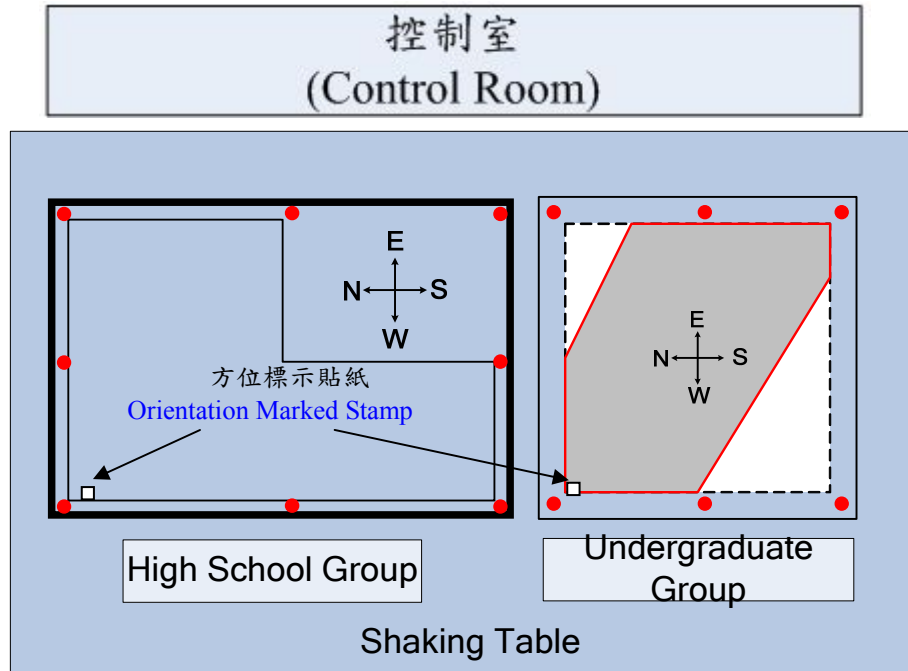

Figure 14. The adopted mounting orientations mentioned in regulation 7.9 and 8.5.
- 7.9 A sticker is attached to the top side of the base board to identify the adopted mounting orientation, when mounting the model onto the shaking table, the arrow on the sticker should point to the north-west direction of the laboratory. As shown in Figure 14.
- 8.5 The adopted mounting orientations in this competition are those specified by the laboratory, and can be found in Figure 14.